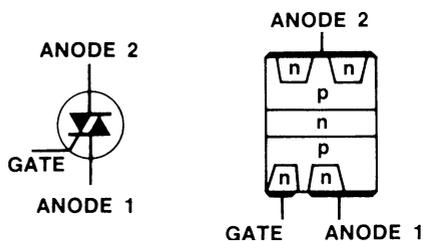
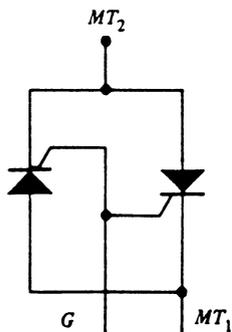

Fig. 7-9 Layout of materials in a triac.
Fig. 7-10 Two SCRs connected in parallel.
Triac Construction Examine the drawing of the triac in Fig. 7-9. The triac has three terminals: main terminal 1 (MT_1), main terminal 2 (MT_2), and gate (G). By examining the PN structure of the triac it can be seen that current can pass through a PNP layer, or it can pass through an NPN. The device can be described as having an NPN layer in parallel with a PNP layer. This arrangement of four-layer material gives the triac a connection of two SCRs in parallel. This connection is shown in Fig. 7-10. The connection in Fig. 7-10 is not how the triac operates. That is because the triac gate voltage responds differently than the SCR gate voltage. Figure 7-11 shows the schematic diagram of the triac. Because the triac can conduct current in both directions, the schematic diagram contains two diodes facing in opposite directions.